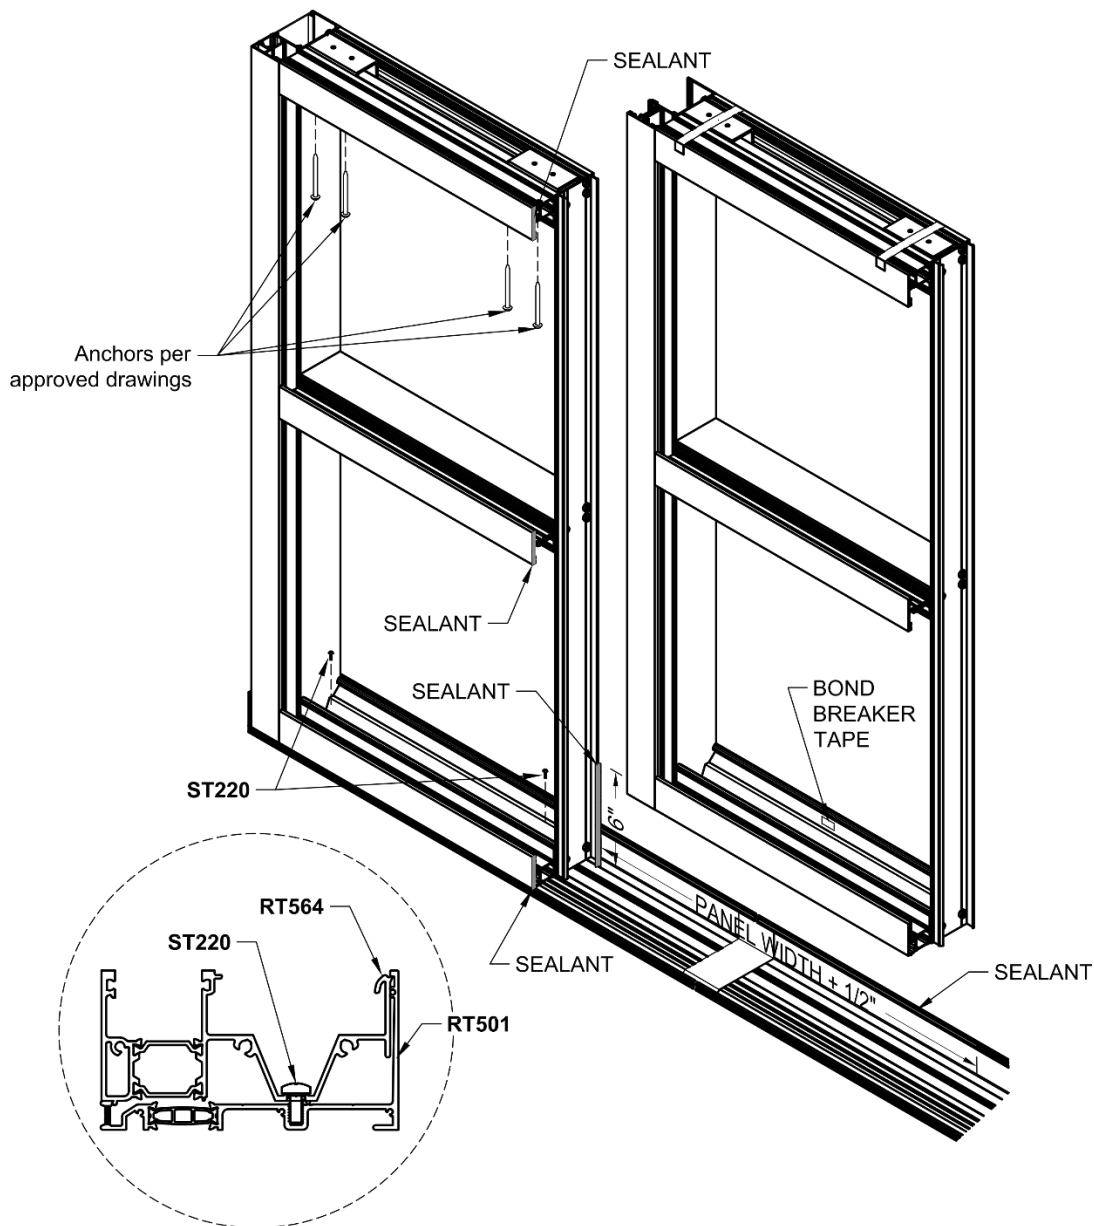

Figure 71: Panel Installation, Additional Panels
- 19.7 Remove any debris from the Sill and secure the panel to the Sill Receptor with **ST22000** fasteners, *Figure 71*. Do not cap seal the **ST22000** fasteners.
- 19.8 Match drill holes at Head anchor points into substrate. Shim and anchor as required. It is not necessary to cap seal fasteners. Reference, *Figure 71*.
- 19.9.3 Reference *Figure 71* for all sealant locations.
- 19.9.5 Reference *Figure 71* for all sealant locations.
- 19.11 Just prior to placing the next panel, apply Sealant the full width of the panel bay plus 1/2" in the top of the Sill Receptor. Reference *Figure 71* for location.
- 19.15 Remove any debris from the Sill and secure the panel to the Sill Receptor with **ST22000** fasteners, *Figure 71*. Do not cap seal fasteners.
- 19.16 Match drill holes at Head anchor points into substrate. Shim and anchor as required. It is not necessary to cap seal fasteners. Reference, *Figure 71*.